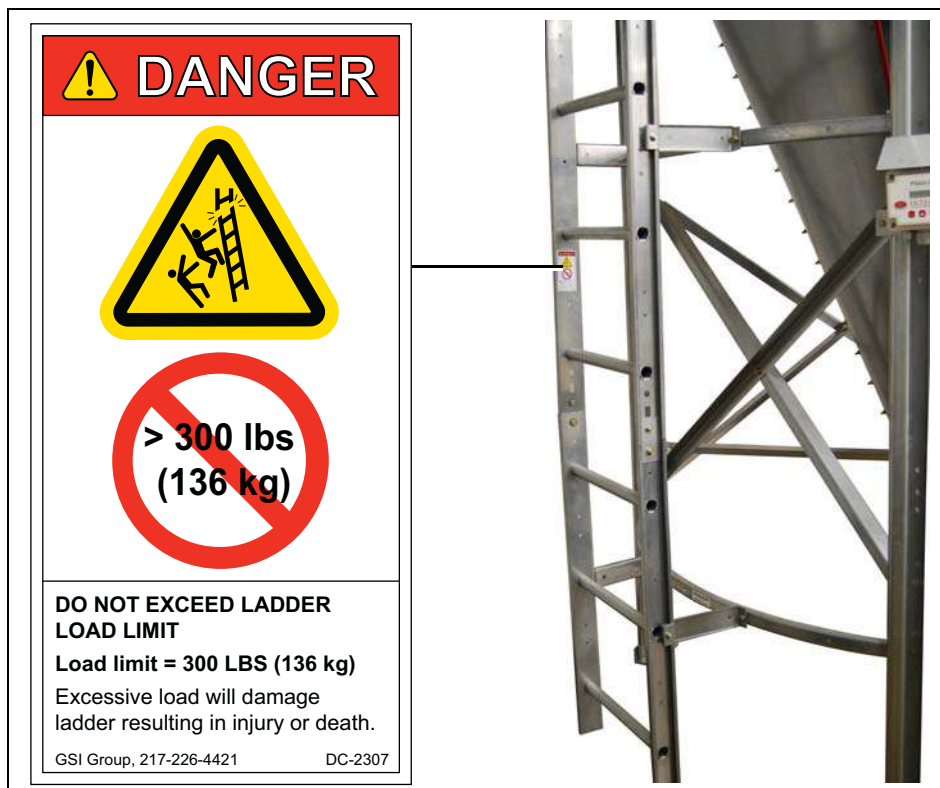

Figure 8J
1. Apply the ladder load limit decal (DC-2307) at eye level on the inside of the ladder rail. Make sure the ladder surface is clean and dry before application. (*See Figure 8J.*)